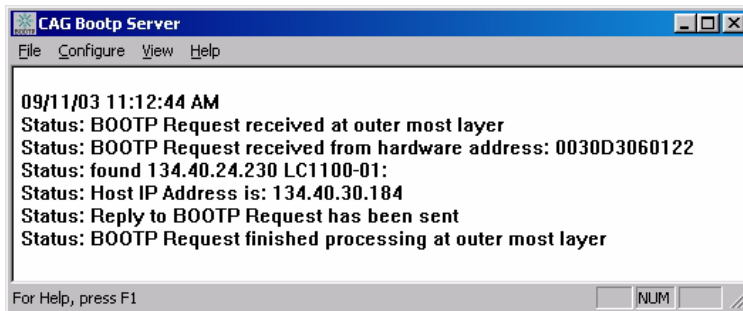

Figure 23 Bootp Server - module found
- 10 Press *OK* to exit the Bootp Manager and power cycle the instrument with the LAN Interface, to force it to send a new bootp request again. This time, the MAC address will be recognized by the Bootp Server (Figure 23). It will send the configured IP address and subnet mask information which are necessary for communication to the LAN Interface.